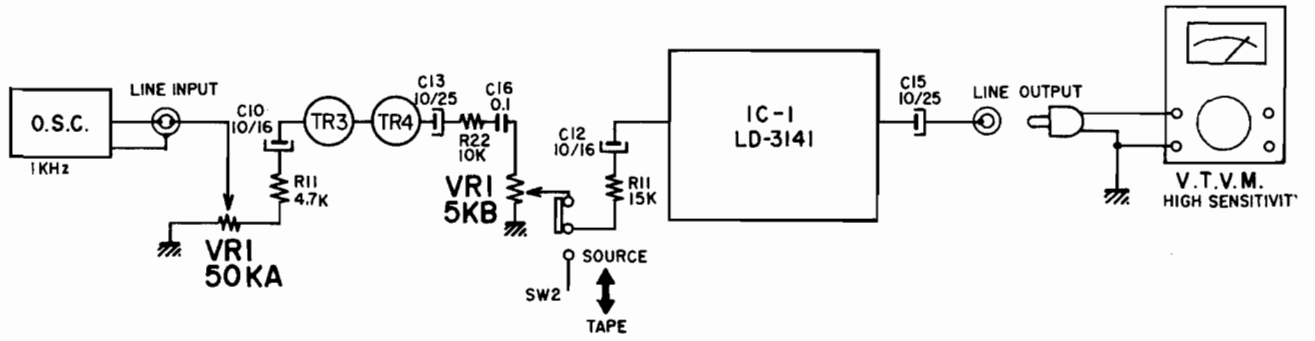

Fig. 26
- As shown in Fig. 26, connect an Audio Oscillator to the Line Input. Connect a high sensitivity V.T.V.M. to the Line Output.